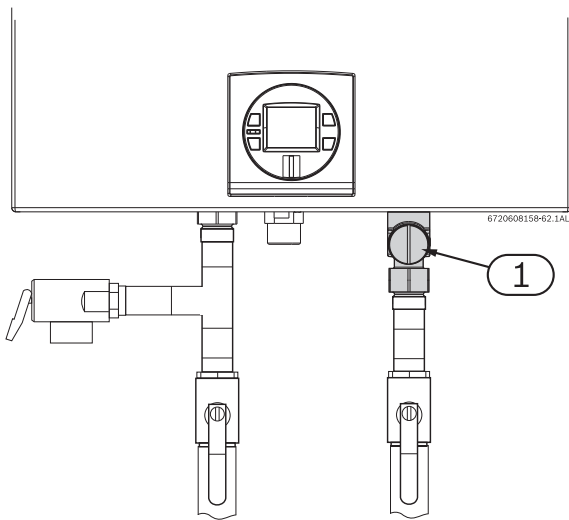

Fig. 31 Plumbing Connections (with shutoff valves) and Pressure Relief Valve
- ▶ Full port shutoff valves should be installed on both the cold water supply and hot water outlet lines to facilitate servicing the heater (see Fig. 31).
The location of the PRV must be readily accessible for servicing or replacement, and be mounted as close to the water heater as possible. See Fig. 31. To install the PRV, a suitable fitting connected to an extension on a "T" fitting can be sweated to the hot water line. Support all piping.